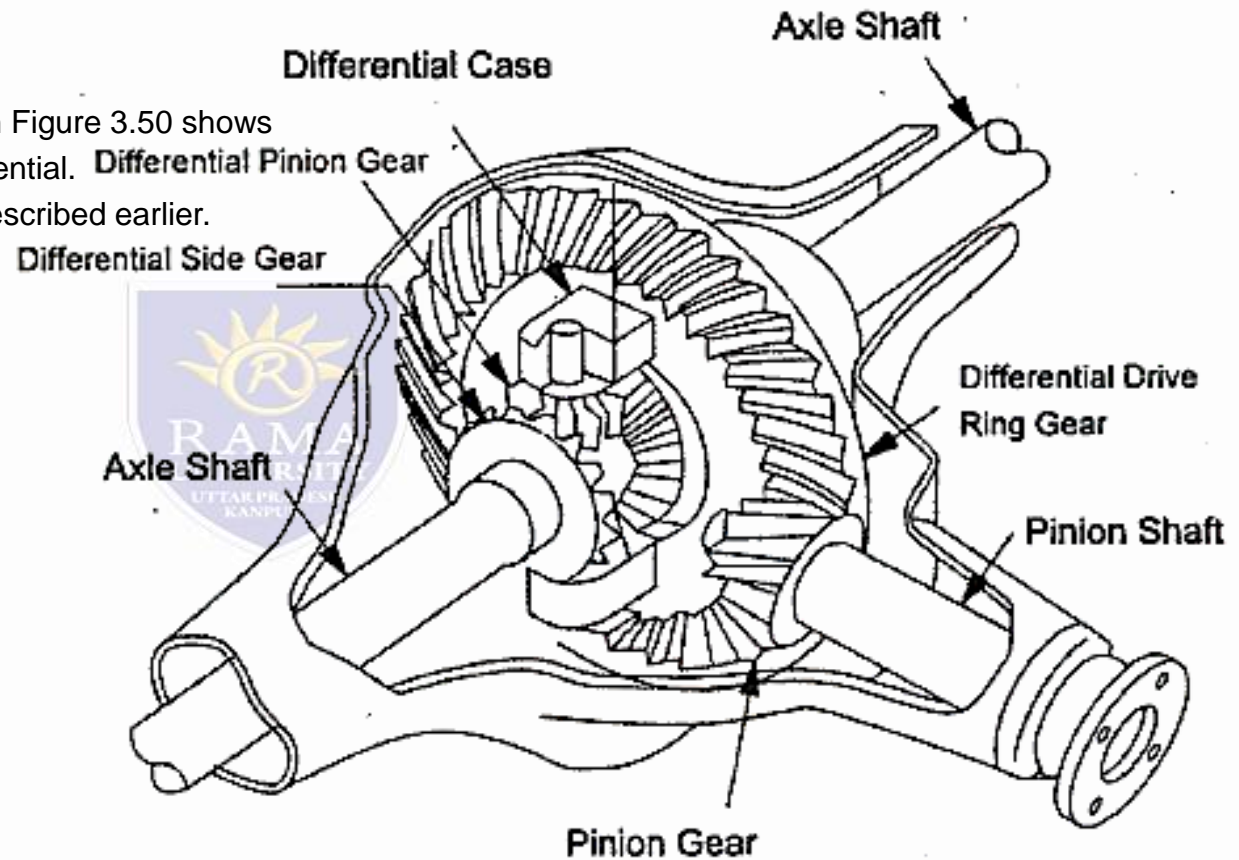

Figure 3.50 Pictorial view of differential
- The conventional differential is shown in Figure 3.50 shows the pictorial representation of the differential.